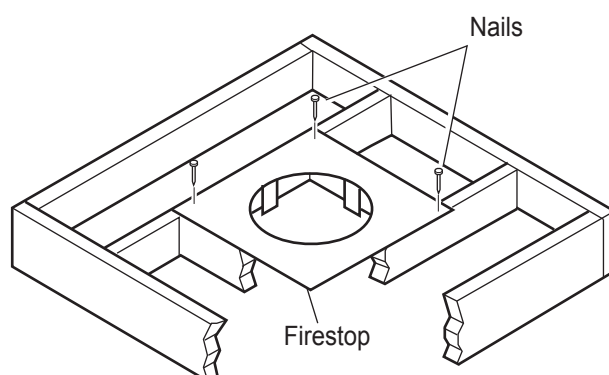
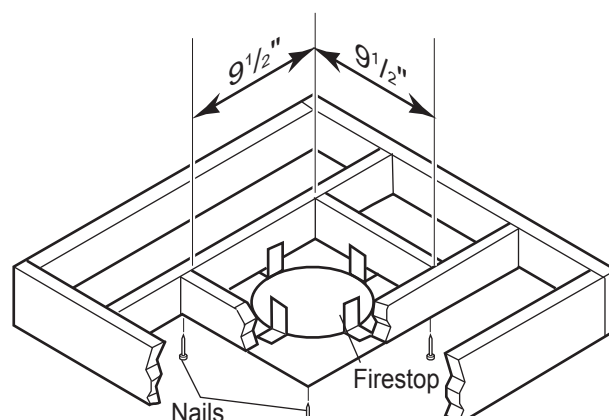

Figure 28a- If area above is a room, install firestop above framed hole as shown
Figure 28b - If area above is not a room, install firestop below framed hole as shown
1. Cut a 9 $\frac{1}{2}$ " (241mm) square hole in the ceiling using the locating hole as a center point. The opening should be framed to 9 $\frac{1}{2}$ "x9 $\frac{1}{2}$ " (241mm x 241mm) inside dimensions as shown in Figure 12, page 17 using framing lumber the same size as the ceiling joist. If the area above the ceiling is an insulated ceiling or a room, nail firestop from the top side. This prevents loose insulation from falling into the required clearance space. See Figure 28a. Otherwise, install firestop below the framed hole. The firestop should be installed with no less than three nails per side. See Figure 28b.